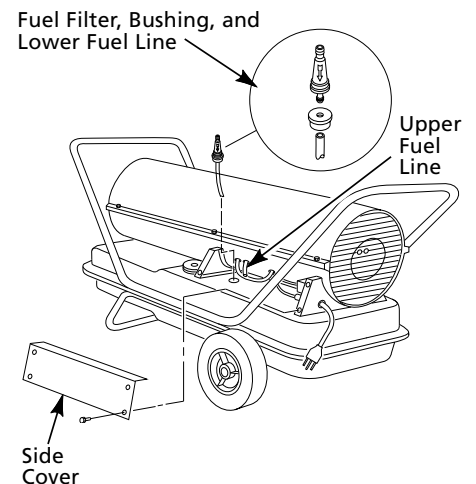

Figure 15 - Fuel Filter Removal, Models 3E218F and 3E219F
4. Carefully pry bushing, fuel filter, and lower fuel line (Models 3E218F and 3E219F only) out of fuel tank (See Figure 15).